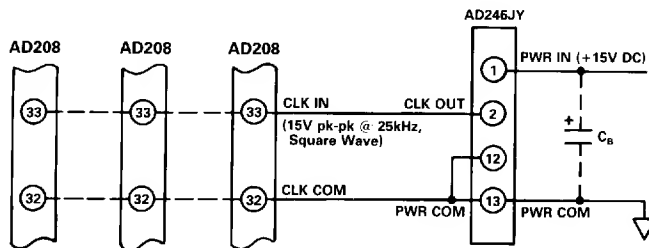
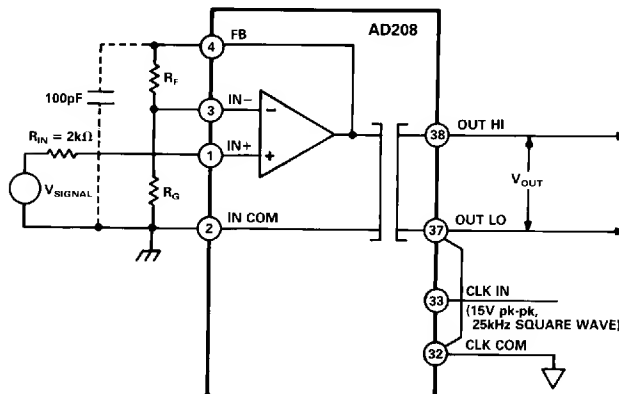

Figure 25. Using the AD246 to Power the AD208
Figure 27. Input Configuration for a Gain Greater Than 1
The AD246JY is connected to the AD208 oscillator input(s) as shown in Figure 25. The AC1058 mating socket can be used with the AD246JY as demonstrated in Figure 27.
**Input Configuration for a Gain Greater Than 1 ( $G > 1$ ).** When small input signal levels must be amplified and isolated, Figure 27 shows how to get a gain greater than 1 while continuing to preserve a very high input impedance.
**Note on the 100 pF Capacitor:** Whenever a gain of 50 V/V or greater is required, a 100 pF capacitor from the FB (input op amp feedback) terminal to the IN COM (input common) terminal, as shown with the dotted lines in Figure 27, is highly recommended. The capacitor acts to filter out switching noise and will minimize the isolator's nonlinearity parameter.